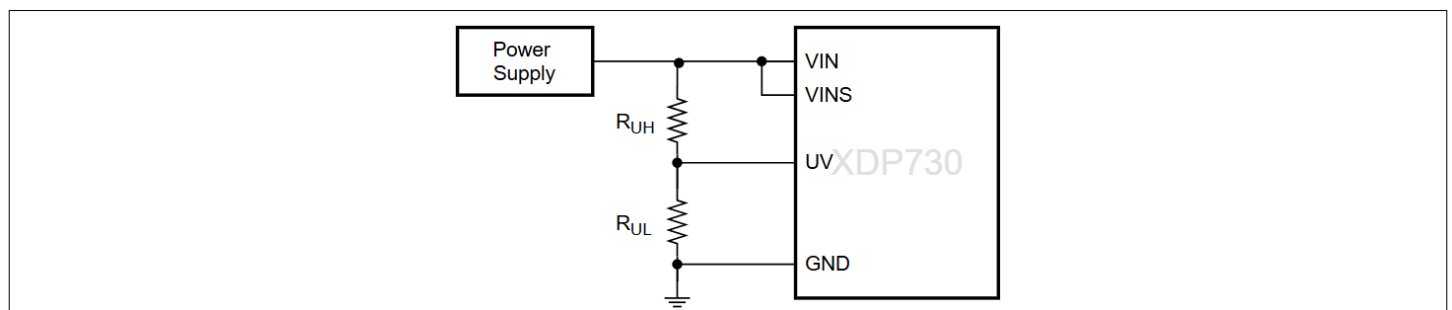

Figure 6 Input undervoltage protection
Generally, every system that uses an eFuse is designed for a specific operating voltage range. The XDP730 has two undervoltage protections for monitoring the minimum input and output voltages. By default, the input undervoltage is configured to sense the voltage at the VINS pin using a digital comparator. When the VINS voltage falls to/below the digitally programmed limit, the input undervoltage protection (UV) is triggered. If needed, the device can be configured to use an analog comparator at the UV pin for faster response. When the UV pin voltage falls to/below V_{UV_LTH} , the input undervoltage protection (UV) is triggered. The equation below can be used to calculate the values of the resistor divider network at the UV pin as shown in Figure 6. At a given time, the input undervoltage can be configured to use either the digital comparator or the analog comparator. The output undervoltage protection is only achieved using the digital comparator at the VOUTS pin. Depending on the device configuration, the MODE command is used to select the appropriate comparator modes for UV and OV detections.